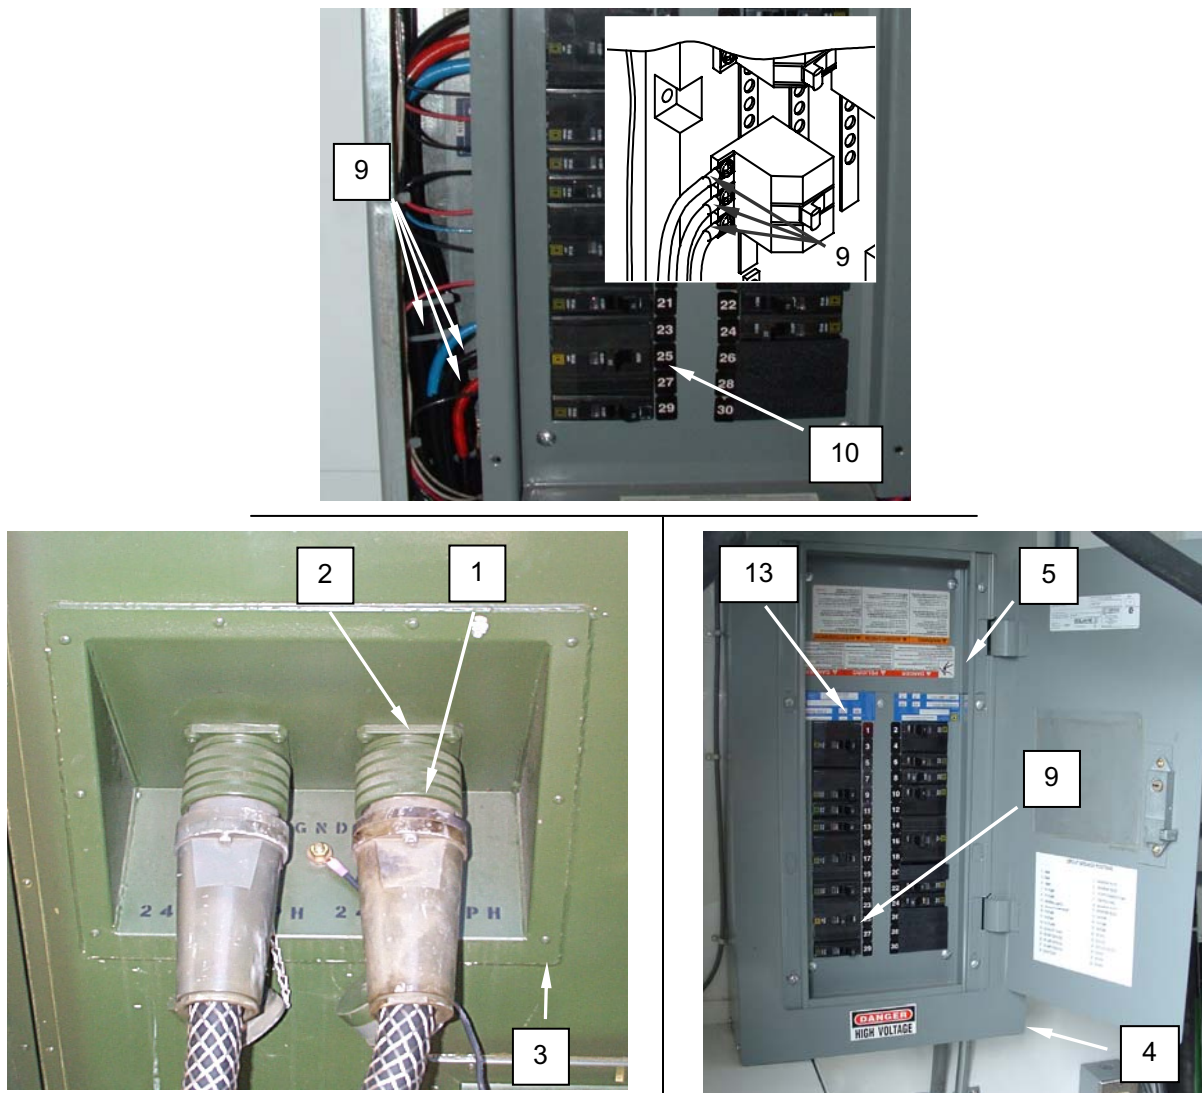

Figure 5. Replace the Power Output Receptacle.
9. Connect the wiring (**Figure 5, Item 9**) to the circuit breaker (**Figure 5, Item 10**) as tagged.
10. Reinstall circuit breaker panel cover (**Figure 5, Item 5**) and circuit breaker box cover (**Figure 5, Item 4**).
11. Reconnect the power output cable (**Figure 5, Item 1**) to the receptacle (**Figure 5, Item 2**) on the CBL power panel (**Figure 5, Item 3**).
12. Place main circuit breaker (**Figure 5, Item 13**) and output circuit breaker (#23, 25, 27) (**Figure 5, Item 10**) to ON and monitor for normal operation.